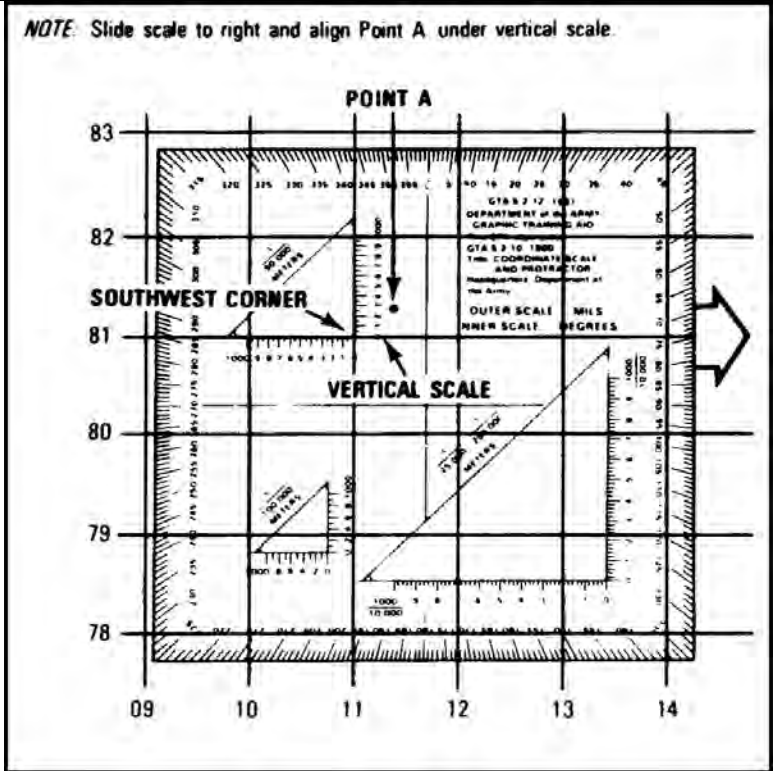

Figure 071-COM-1002-4. Placement of the Coordinate Scale.
(1) Place a coordinate scale and protractor or a plotting scale on the bottom horizontal grid line of the grid square containing Point A.
(2) Check to see that the zeros of the coordinate scale are in the lower left-hand (southwest) corner of the grid square where Point A is located (Figure 071-COM-1002-4).
(3) Slide the scale to the right, keeping the bottom of the scale on the bottom grid line until Point A is under the vertical (right-hand) scale (Figures 071-COM-1002-5 and 071-COM-1002-6).